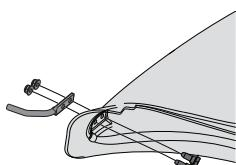

Figure 17
1. From the inside of the boot, put the two hex head screws (738-1225), from hardware pack 689-00636, through the holes at the bottom front of the boot. See Figure 17.
2. Put the mounting rod (747-06043) in place over the hex head screws. Make sure the tip of the rod is facing out from the boot. See Figure 17.
3. Begin threading the two flange lock nuts (712-04064) onto the hex head screws. See Figure 17.